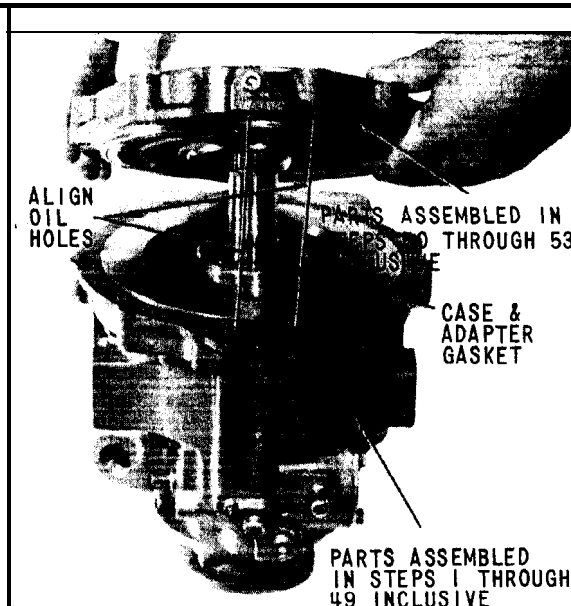

Fig. 60 Assembling Adapter and Reverse Clutch Assembly onto Case
54. With parts assembled, in steps 1 through 49 inclusive, resting on the rear face of coupling, coat the exposed front of the transmission case with petroleum jelly and assemble in place the case and adapter gasket, (Fig. 60).
55. Lift combined parts assembled in steps 50 through 53 inclusive, above parts assembled in steps 1 through 49 inclusive, as shown in (Fig. 60). Align the oil holes as indicated in (Fig. 60), then lower the reverse clutch piston and adapter assembly squarely onto the input gear and transmission case.